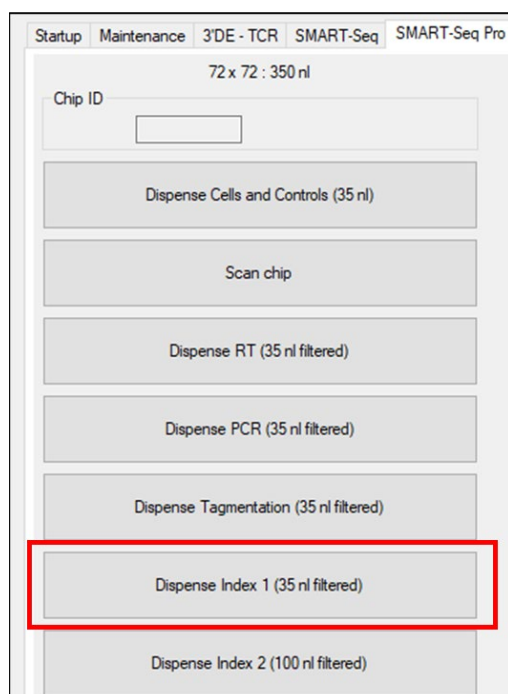

Figure 22. Using CELLSTUDIO software to dispense Index 1.
- b. At Step 8, click the [Dispense Index 1 (35 nl filtered)] button (Figure 22).